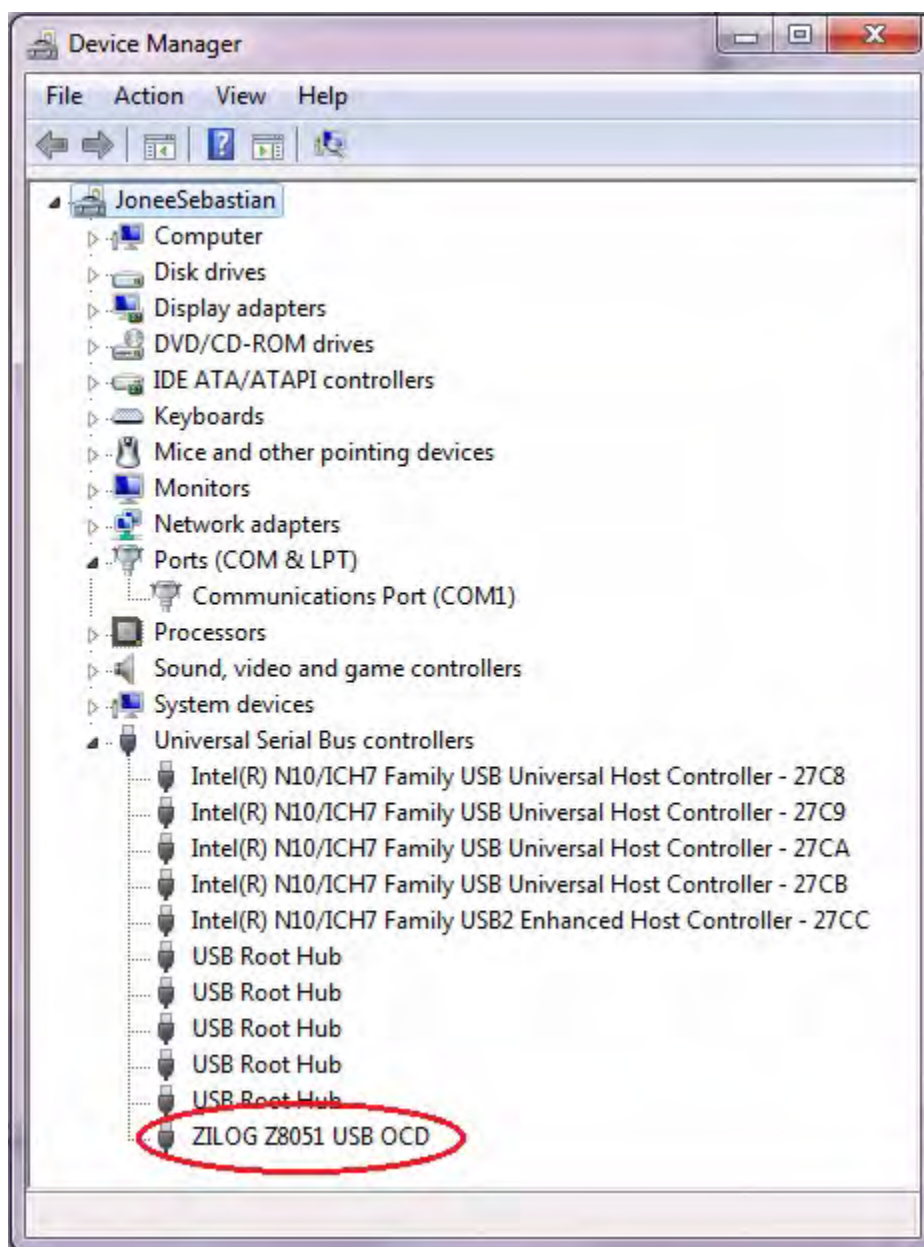

Figure 10. Device Manager Dialog, Windows 7
6. If *Zilog Z8051 USB OCD* appears in the Device Manager (as highlighted in Figure 10), the OCD driver software has been successfully installed.